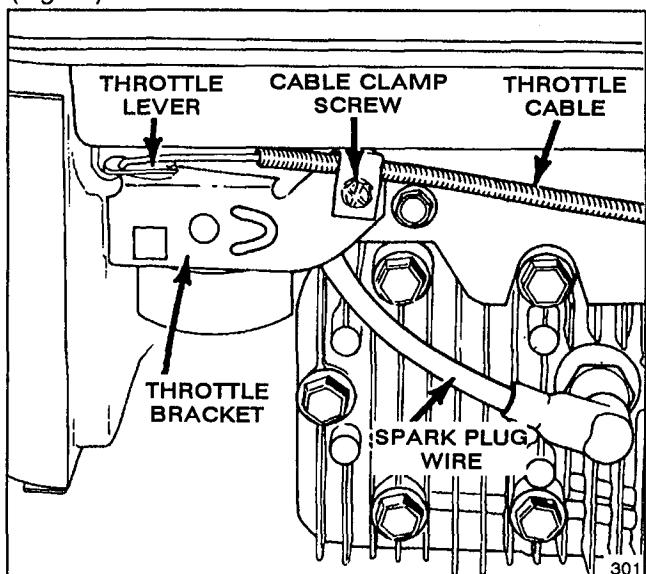
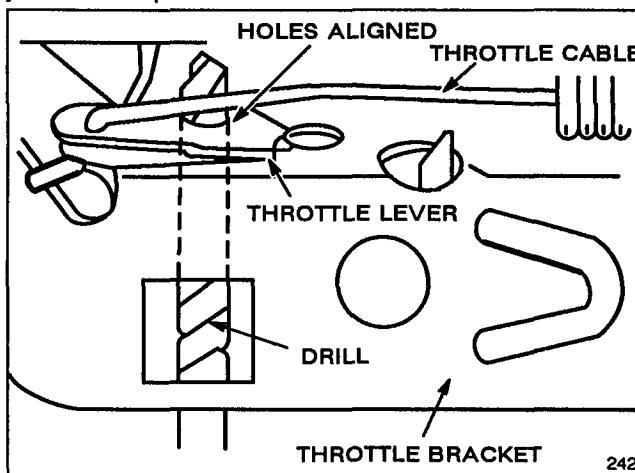

Figure 14
Figure 15
2. Push spark plug wire onto spark plug (Fig. 14).
1. Stop engine and pull wire off spark plug (Fig. 14).
3. Loosen cable clamp screw until throttle cable slides (Fig. 14). Align holes in throttle lever and throttle bracket using a 1/8" diameter drill (Fig. 15). Tighten cable clamp screw to lock adjustment in place.
1. Stop the engine. Pull the wire off the spark plug (Fig. 14).